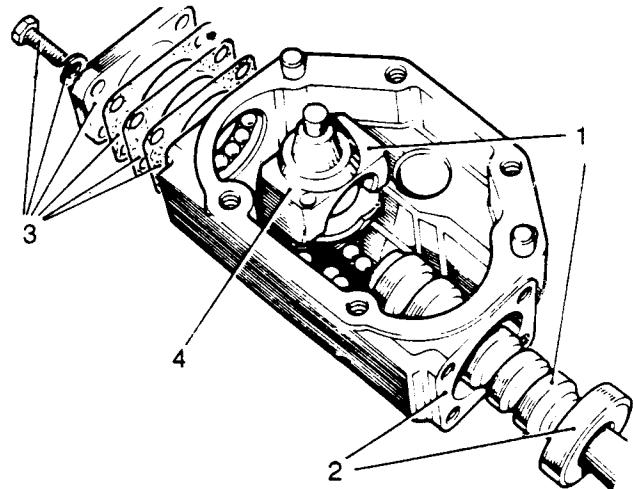

Fig L5.6
- (4) Refer to Fig L5.6. Fit the twelve 9,52 mm diameter ball bearings to the main nut and re-circulating tube (4).
- (5) Replace the lower ball race, shims and end cover (3).
- (6) Wind the worm shaft through the main nut.
(7) Refit the upper ball race and fit the box to the inner column (2).
(8) Rotate the inner column to locate the main nut in the midway position on the worm shaft (1).